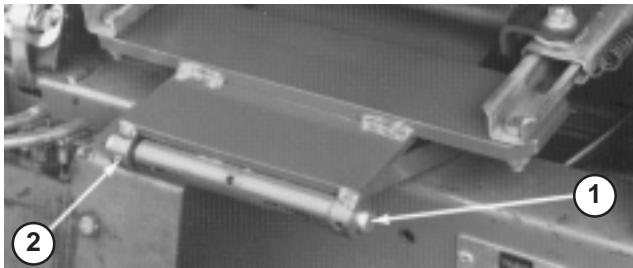

Figure 9
3. Mount seat and seat support to seat pivot bracket with pivot shaft and roll pin (Fig. 9).
5. Mount seat and seat support to seat pivot bracket with pivot shaft and roll pin (Fig. 9).